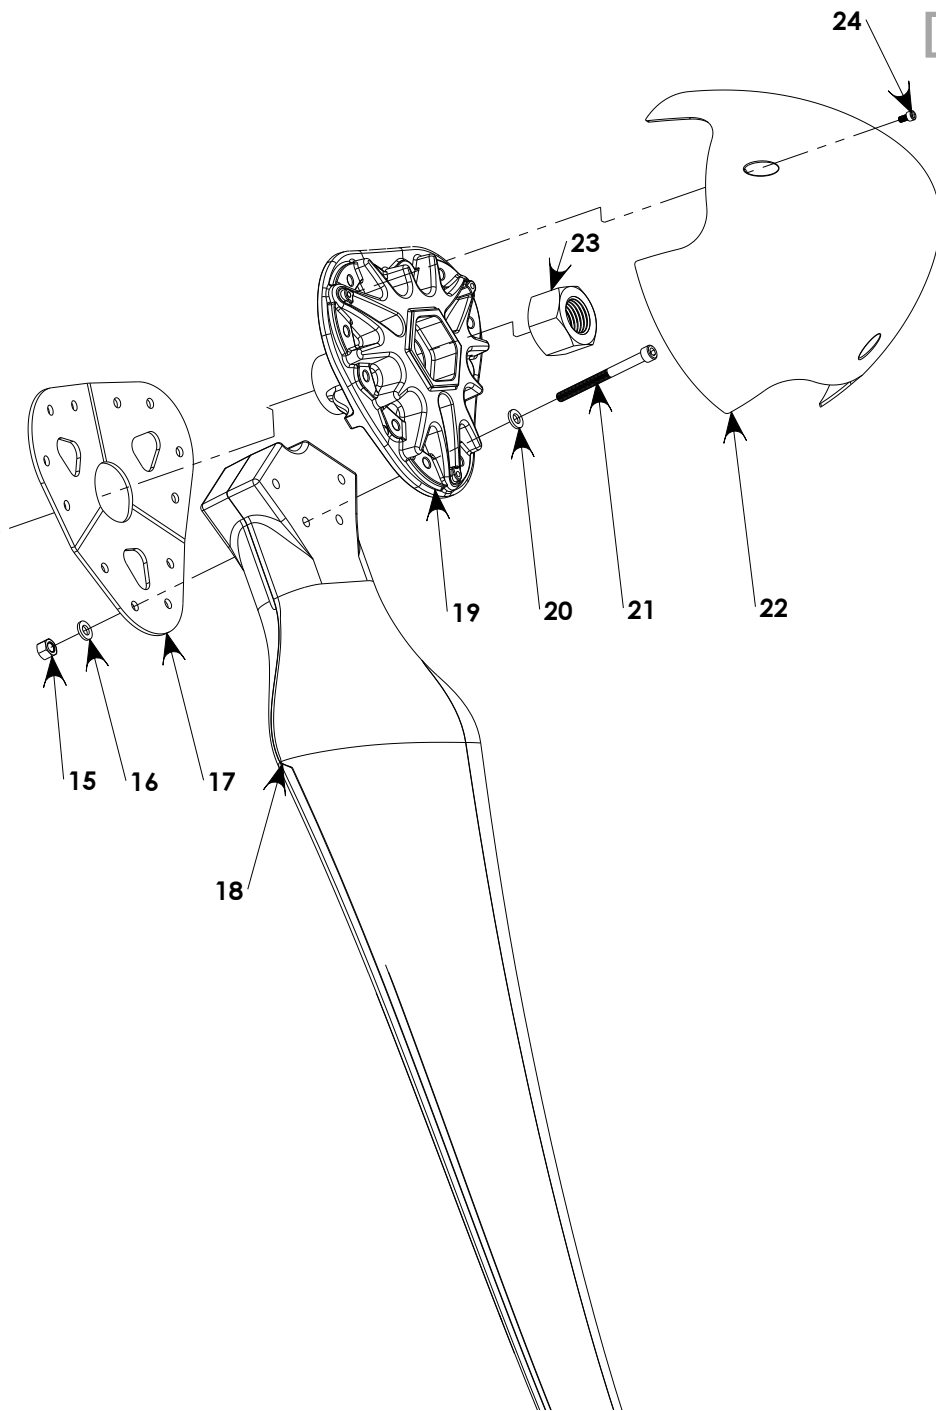

Fig. 8 Blade and nosecone assembly
Refer to Fig. 8 (page 17) for visual aid.
- Place a blade between the blade hub and blade mounting plate. Refer to Fig. 8 (page 17) for proper orientation. Note the blades may only be installed in one position due to the “triangular” boss cast into one side of the blade root (base).